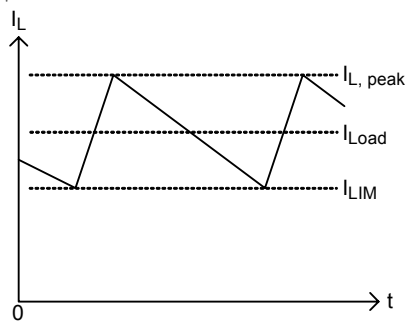

Figure 7. "Valley" Current Limit
RT8208A/B has cycle-by-cycle current limiting control. The current limit circuit employs a unique “valley” current sensing algorithm. If the magnitude of the current sense signal at CS is above the current limit threshold, the PWM is not allowed to initiate a new cycle (Figure 7).in order to provide both good accuracy and a cost effective solution, the RT8208A/B supports temperature compensated MOSFET RDS(ON) sensing. The CS pin should be connected to GND through the trip voltage setting resistor, RCS. The CS terminal source 10μA ICS current, and the trip level is set to the CS trip voltage, VCS as in the following equation.